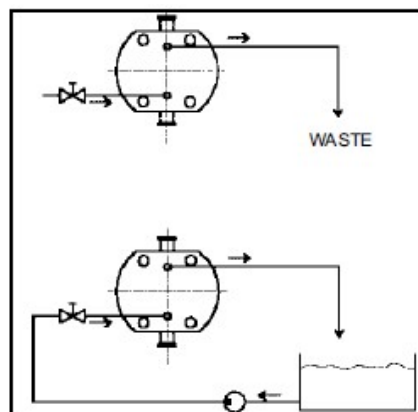

Figure 8 :
**Liquid Barriers:** The flushing liquid used must itself be compatible with the pumped fluid. Fluid should be connected to flow in at the lowest point on end-cover and out at the highest point to vent air pockets. Barrier fluid maximum pressure for the end cover is 2 bar. (See Figure 8).